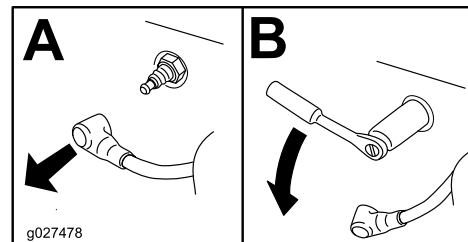

Figure 34
2. Remove the spark plug as shown in Figure 34.